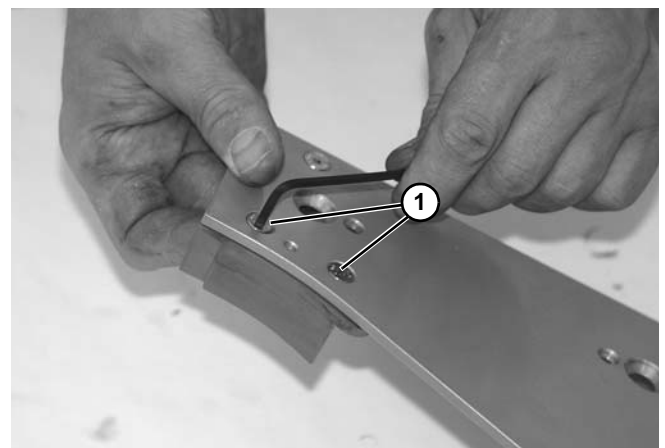

Figure 125
4. Remove two screws (Figure 125, item 1) from inside plates.